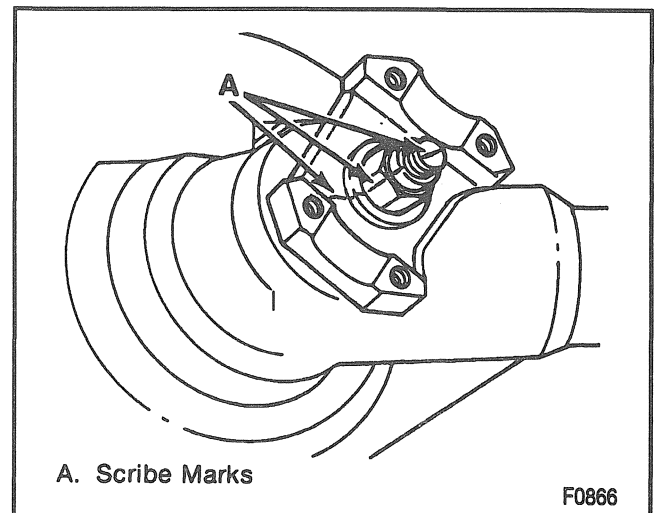

Figure 16—Scribed Marks
- Scribe a line on the pinion stem, pinion nut and the companion flange and record the number of exposed threads on the pinion stem. Use the scribed reference and the exposed threads as a reinstallation guide (Figure 16).
- Place washer and nut on the pinion threads and tighten the nut to the original scribed position using the scribe marks and exposed threads as a reference (Figure 16).